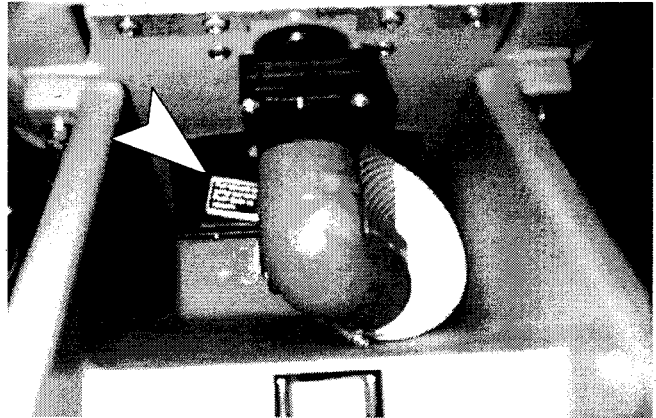

FIG. 5.
4. Pull up on drain lever and turn on switch. Figure 5